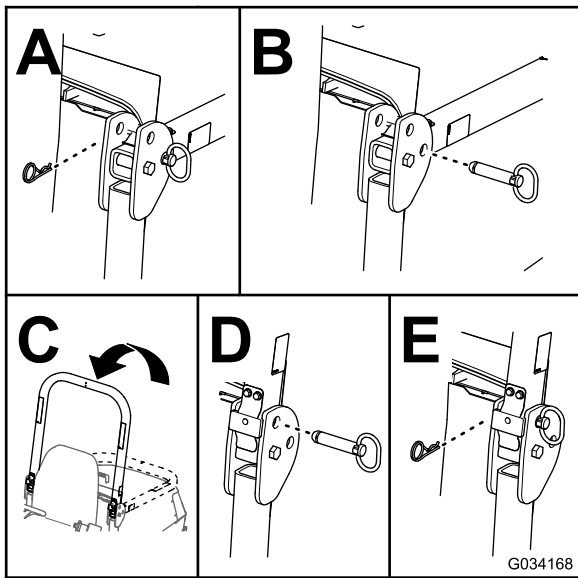

Figure 32
2. Remove the cotter pins and pins from the roll bar (Figure 32).
3. Raise the roll bar and secure it in place with the pins and cotter pins (Figure 32).